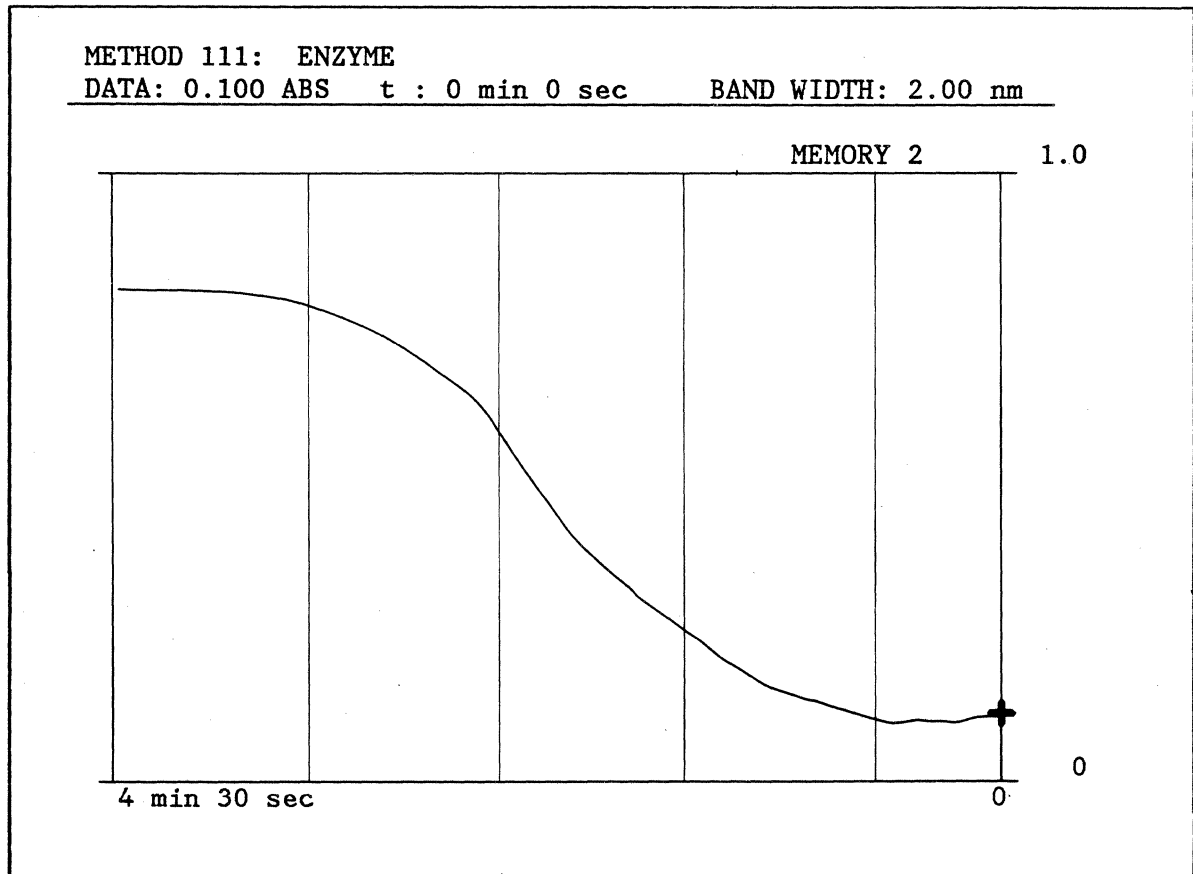

Figure 5-5. Method 111 Display of Stored Data.
- 2)  $K = 0$ : The ordinates displayed are an exact multiple of the Measure Time, as illustrated in Figure 5-5.